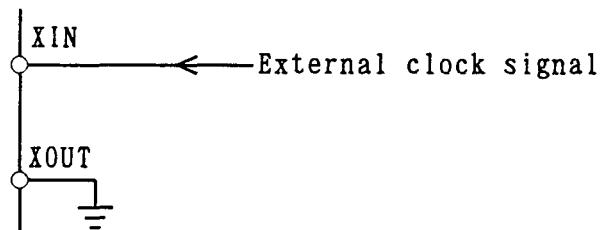

Fig.4
- For external clock operation, if the high(H) level of the input clock signal amplitude equals to or is greater than 1.5V, and the low(L) level equals to or is smaller than 0.5V, then connection should be as shown in Fig.4.